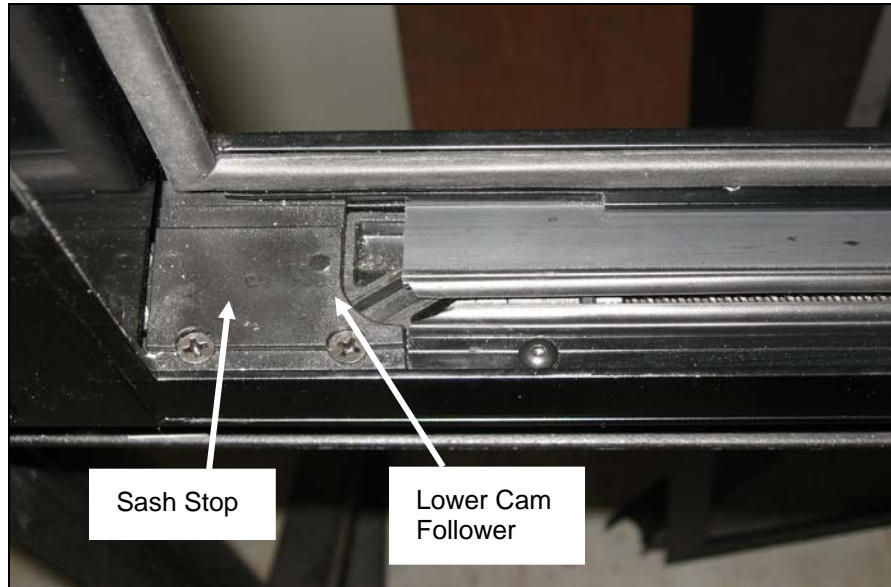

FIGURE 101: DISENGAGING THE BOTTOM OF THE SASH
3. Lift the sash up and out to disengage the bottom of the sash from the window frame. (Figure 101)